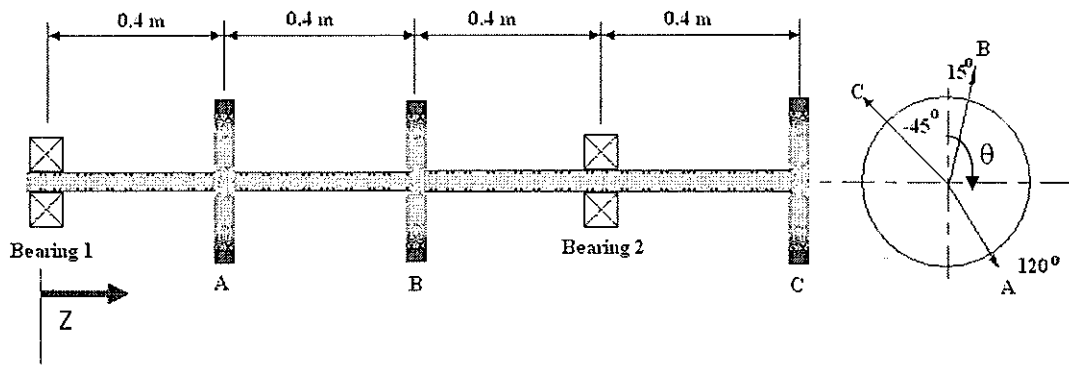

Figure Q5(b)
- b) The **Figure Q5(b)** shows a rotor lying on the z axis whose total length is 1.6 m. The rotor is supported on stiff bearings at $z = 0$ and $z = 1.2$ m. Three discs A, B and C are fixed to the rotor and the mass centre of each is slightly eccentric. The angular positions of weights measured (clockwise) from vertical axis are 120° , 15° and -45° as in the right side of the diagram. **Table Q5(b)** shows the position of the discs and details of the imbalance carried initially on each of the discs.